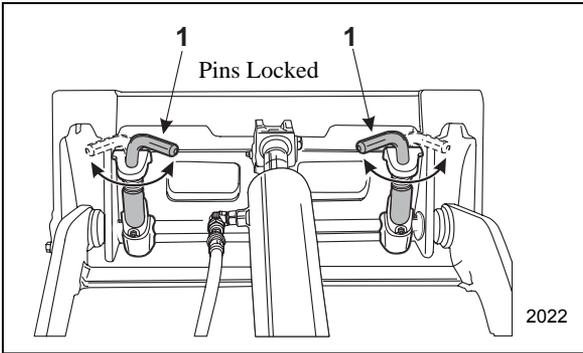

Figure 3–28 Attachment Locks in Locked Position
6. Rotate the attachment lock pins (Item 1, Figure 3–27, Item 1, Figure 3–28) into the locked position securing the attachment to the machine.